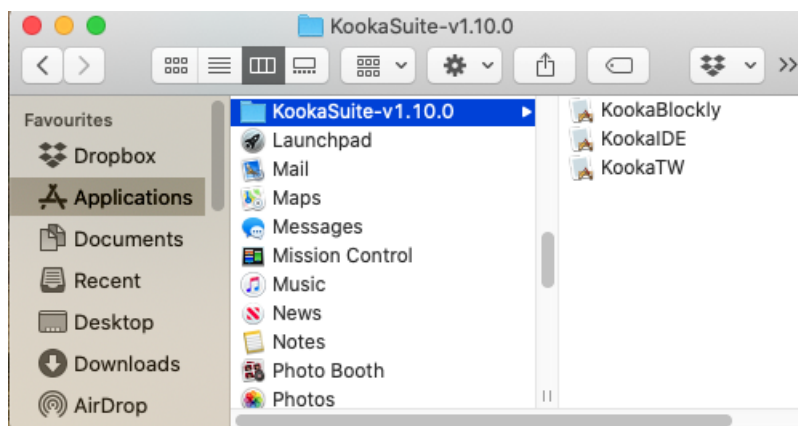

Fig. 1.11: **KookaSuite** apps copied to the Applications folder.
2. Create a suitably named folder in the Macintosh `Applications\` folder and drag the **KookaSuite** apps into it, as shown in Fig. 1.11.